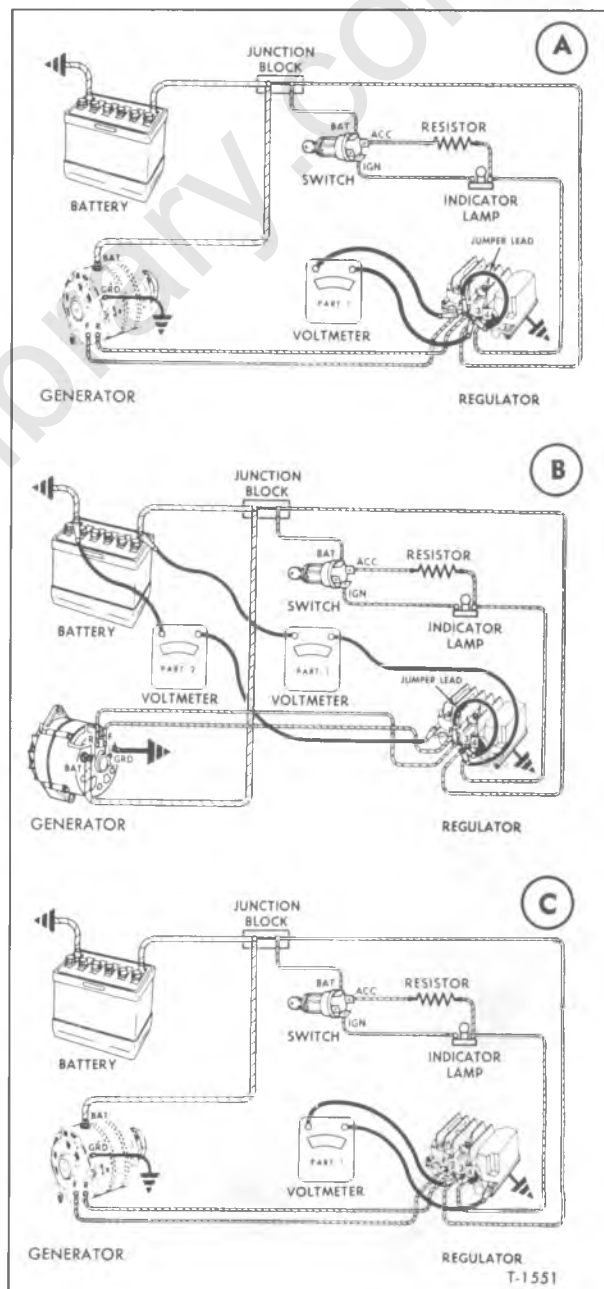

Figure 14—Connections for Testing 1116374 or 1116378 Regulator Voltage Setting (Typical)
1. Make connections as shown in View A, figure 14.
a. Make connections as shown in View B, Part 1, figure 14, and record the voltage drop.
b. Connect a voltmeter between battery ground terminal and ground on regulator base as shown in View B, Part 2, figure 14, and record the voltage drop.
d. If total voltage in Step c. is below 0.25 volt, connect a voltmeter between regulator No. 3 terminal and ground on regulator base as shown in View C, figure 14; then with switch on, operate engine at 1,275 rpm for 15 minutes. Leave cover on regulator. Place a thermometer ¼-inch from regulator cover and compare voltage with "Specifications" given in "Temperature Chart" at end of this section.